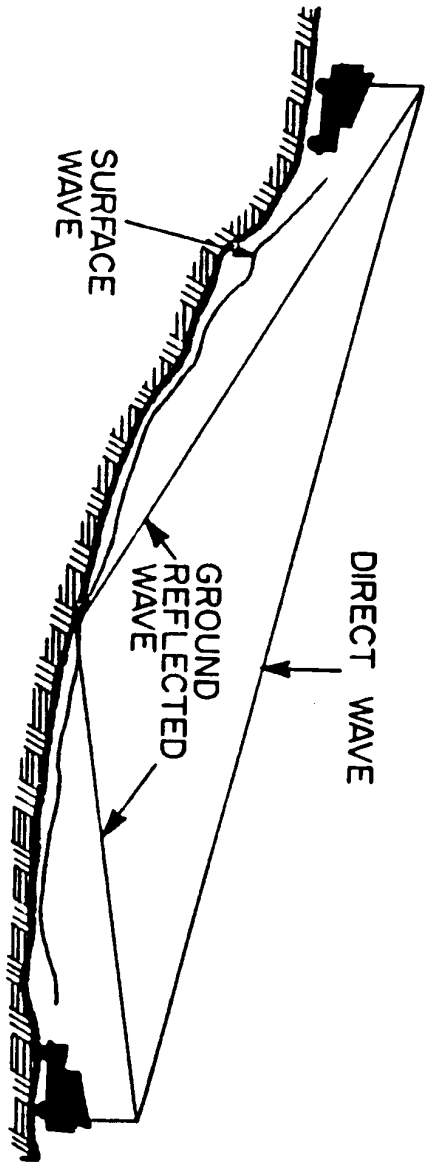

Figure 2 Groundwave components.
2 shows possible radio paths between two stations located in the Brigade area of operations. It is assumed that most combat units in the Brigade will be located within a maximum distance of 400 miles from each other for purposes of this SOP/OC. Circuits of greater distances (reach back) will be covered under other sections of this SOP/OC. Fig 2 shows three possible low angle radio paths located along or near the surface of the earth. These paths are called ground-wave paths because they are close to the earth's surface or in contact with it. They consist of the (1) direct wave path. The direct wave consists of radio frequency energy that travels through the atmosphere and near the earth directly from one antenna to another. This is called the line of sight (LOS) mode of propagation. Maximum LOS distance depends upon the height of the antenna above the ground and whether or not the path is obstructed by terrain that will block radio signals. On flat ground, direct wave paths suitable for THFRS communications can be expected out to 6-8 miles before the curve of the earth blocks the signals. Direct wave communications can go much further if stations are located high on hilltops with no intervening obstructions so control of high ground and antenna height is important when using direct wave communications. (2) The ground reflected path like the direct path travels through the atmosphere but due to the lower "take off" angles from the transmitting antenna, the signal energy is reflected off the earth while traveling from the transmitting antenna to the receiving antenna. Depending upon the composition of the ground at the reflecting point the reflected energy can be considerably reduced when it arrives at the receiving antenna. Signals reflected off seawater lose almost no energy while signals reflected off a sandy desert become quite weak. When summed together the direct wave and the reflected wave are referred to as the space wave. As the two combine, they can result in either a stronger or weaker total signal depending upon the timing difference of the two signals as they arrive. The difference in signal phasing is caused by the longer distance traveled by reflected wave. Space wave signals will usually not be the predominate mode of communications in the BCT. The (3) surface wave path is the transmitted radio energy that travels along the boundary between the atmosphere and the earth's surface and is in actual contact with the earth's surface. The surface wave is greatly affected by the electrical conductivity of the earth in the path of propagation. With a good conductor such as seawater surface wave communications out to 1 00+ miles are possible. With a poor surface such as sand or frozen ground surface wave communications are greatly reduced. Surface wave signals are also greatly reduced by heavy vegetation or mountainous terrain. Surface wave signals can be made stronger over poor ground by using techniques that improve the conductivity of the earth near the antenna. Most HF ground-wave communications within the BCT will utilize surface wave signals. Space wave communications will predominate only when communicating from high ground to other high ground locations along the line of sight (LOS). Vertical monopole (whip) man-pack and vehicle antennas of various lengths are the antennas provided to produce the low take off angle energy needed to generate ground wave signals. Figure 3 shows the antenna energy pattern of the vertical monopole (whip) antenna. Note that the signal is along the surface of the earth and on the lower angles. There is much less energy on the higher angles and none directly overhead (vertical angles). The pattern resembles a doughnut so operationally, it can be very difficult to communicate with aircraft that are directly overhead while you can talk to aircraft many miles away that are receiving low angle energy from a vertical antenna.